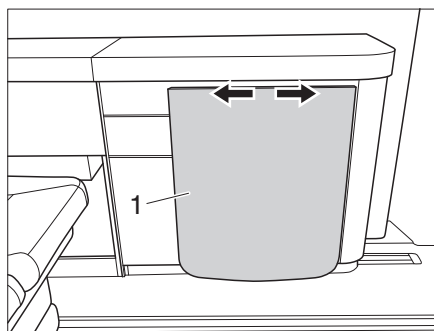

Fig. 11 Table in the Campstar
- ▷ Lift the table-top (Fig. 11,1) slightly before moving it so that the furniture is not scratched.